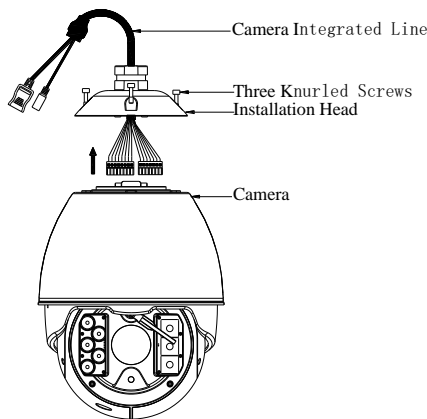

Fig 1
Step 1: get M5 die nut from seal pocket, screw off the knurled screw and take off installation head, then take off the integrated line(as Fig 1)